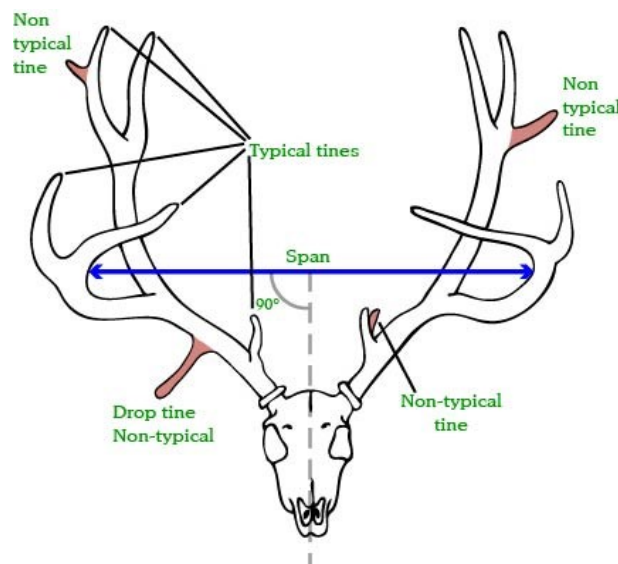

Figure 1
1. Identify tines. Start by drawing a baseline for all tines—T and NT—with a pencil (Figure 1), as explained in GDI, even if they appear to be slightly less than 1 inch. This is so you will not miss a potential valid point. All tines must be 1 inch or more and not be any wider along the baseline than they are long to be valid; see GDI. If a rack has many NT tines, we recommend that you mark all typical tines with red paper tape and all NT tines with blue tape. Remove these pieces of tape as you measure the head to make sure you do not overlook any tines nor measure any twice.